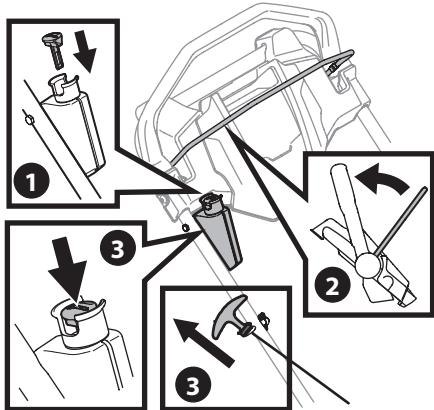

Figure 6
- Standing behind the mower, pull the blade control back against the drive control (Figure 6).
- Recoil Start:** While holding the blade and drive controls together firmly, pull the recoil starter handle lightly until resistance is felt, then pull rapidly to overcome compression, prevent kickback, and start the engine. Repeat if necessary (Figure 6).
- Electric Start (If Equipped):** Push the electric starter push key to start the engine (Figure 6).